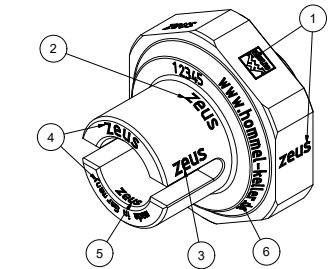

Figure 1: Area of application
Markings on faces (Fig. 1, ref. 4 and 6), cylindrical outer surfaces (also up to a shoulder); (Fig. 1, ref. 1 and 5), bevels (Fig. 1, ref. 3) and spherical surfaces (Fig. 1, ref. 2) are possible.